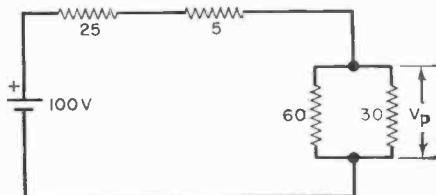

Fig. 18
**Ex. 17.** Find the voltage across the parallel resistors in Fig. 18. **Sol.**  $60//30 = 20$  ohms. Hence,  $V_p = 20 \times 100 / (25 + 5 + 20) = 40$  V.